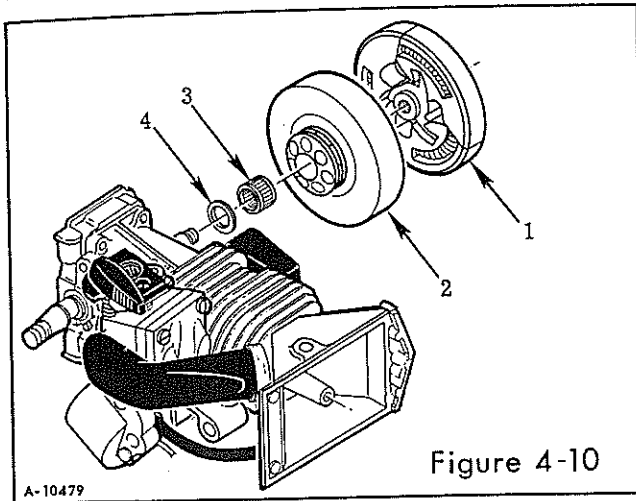

Figure 4-10
To remove the bearings, oil seals, retaining rings and thrust plates from the crankshaft, remove in addition to the above, the clutch rotor (1, Figure 4-10), sprocket and drum assembly (2) and sprocket bearing and washer (3 and 4).